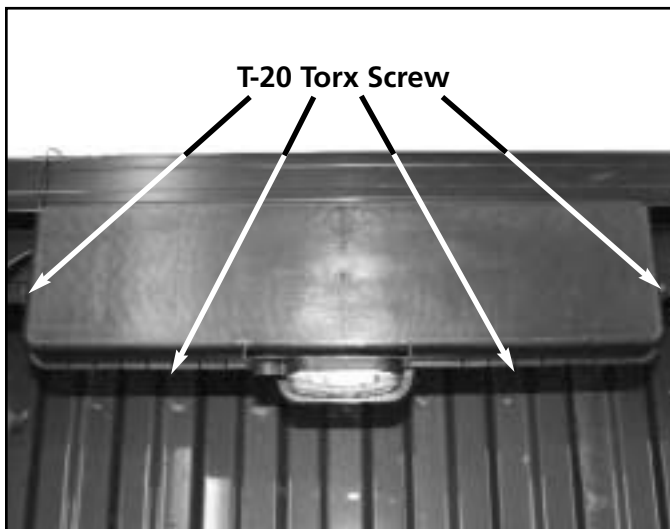

Figure S-70
3. Remove the four (4) T-20 Torx motor cover retainer screws and the motor cover. See figure S-70.
20. Install the motor cover, the four (4) T-20 Torx motor cover retaining screws and tighten. Refer back to figure S-70.